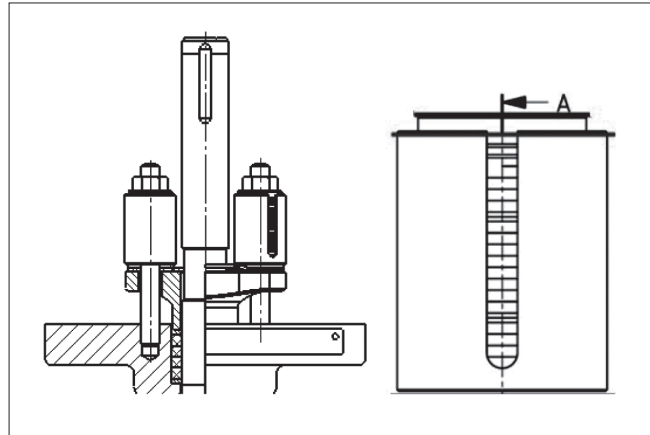

Fig. 13 High performance live-loading
- **For the high performance live-loading option (Figure 13), pre compress the gland packing until the top cap reach the shell holder (housing) to ensure proper force in use.**